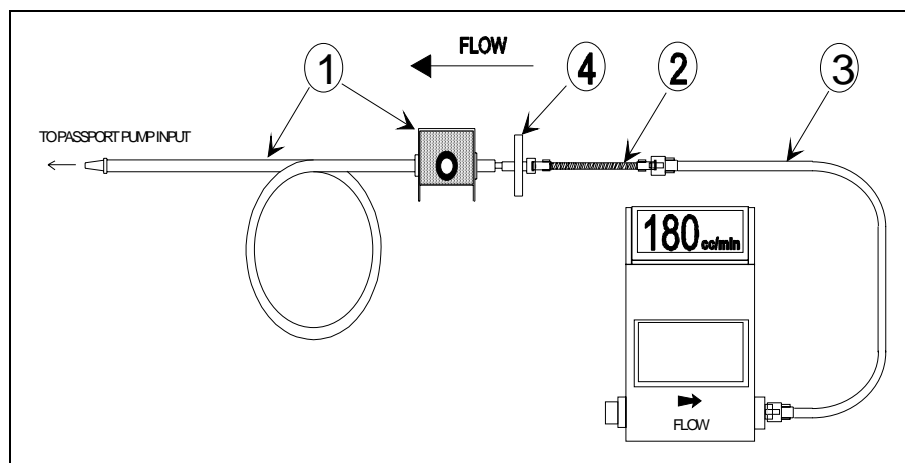

FIGURE 7-13 Sidestream CO₂ Pump Calibration Kit
2. Assemble the CO₂ Sidestream pump calibration parts as shown in Figure 7-13 and attach to the Passport monitor.